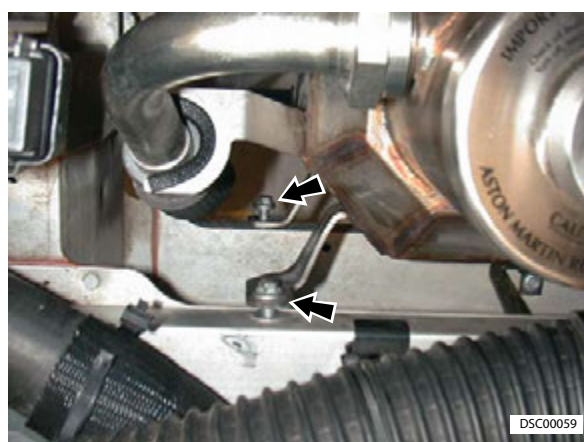

Figure 25
22. Install oil tank (bolts x4) (refer to Figure 25).